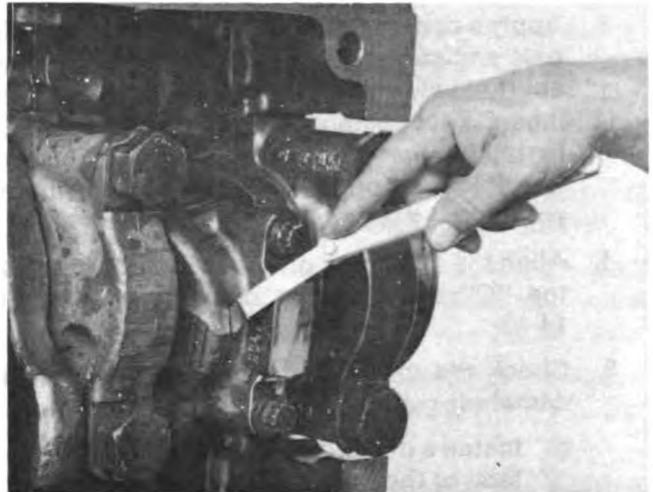

Fig. 14-19. Measure The Side Clearance.
10. Check the side-to-side (side clearance) movement of the connecting rod, Fig. 14-19. The connecting rod must move freely. The side clearance must be between 0.0045 inch [0.114 mm] and 0.013 inch [0.33 mm]. If the connecting rod does not move freely, remove the cap.